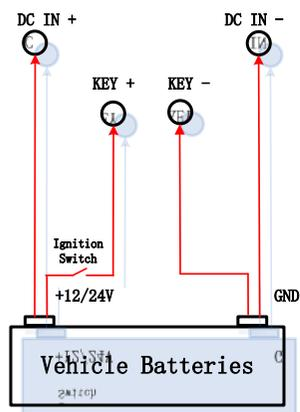

Fig 2.4
(1) Connection of Positive Pole Switch (Fig 2.4):